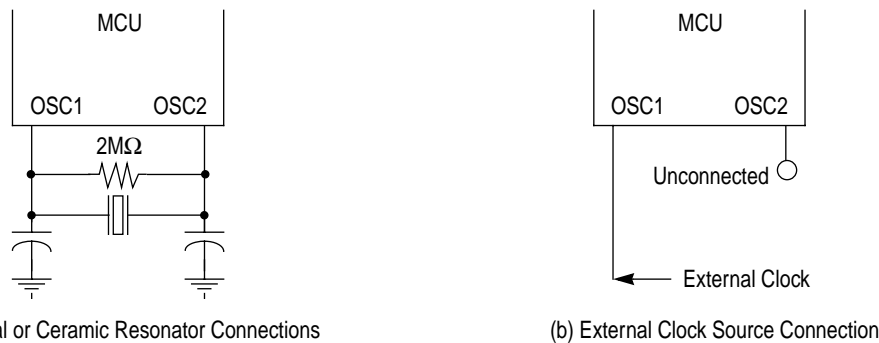

Figure 1-3. Oscillator Connections
1. A crystal as shown in **Figure 1-3(a)**
2. A ceramic resonator as shown in **Figure 1-3(a)**
3. An external clock signal as shown in **Figure 1-3(b)**
The circuit in **Figure 1-3(a)** shows a typical oscillator circuit for an AT-cut, parallel resonant crystal. The crystal manufacturer's recommendations should be followed, as the crystal parameters determine the external component values required to provide maximum stability and reliable start-up. The load capacitance values used in the oscillator circuit design should include all stray capacitances. The crystal and components should be mounted as close as possible to the pins for start-up stabilization and to minimize output distortion. An internal start-up resistor of approximately $2M\Omega$ is provided between OSC1 and OSC2 for the crystal type oscillator as a mask option.
In cost-sensitive applications, a ceramic resonator can be used in place of the crystal. The circuit in **Figure 1-3(a)** can be used for a ceramic resonator. The resonator manufacturer's recommendations should be followed, as the resonator parameters determine the external component values required for maximum stability and reliable starting. The load capacitance values used in the oscillator circuit design should include all stray capacitances. The ceramic resonator and components should be mounted as close as possible to the pins for start-up stabilization and to minimize output distortion. An internal start-up resistor of approximately $2 M\Omega$ is provided between OSC1 and OSC2 for the ceramic resonator type oscillator as a mask option.
An external clock from another CMOS-compatible device can be connected to the OSC1 input, with the OSC2 input not connected, as shown in **Figure 1-3(b)**. This configuration is possible ONLY when the crystal/ceramic resonator mask option is selected.